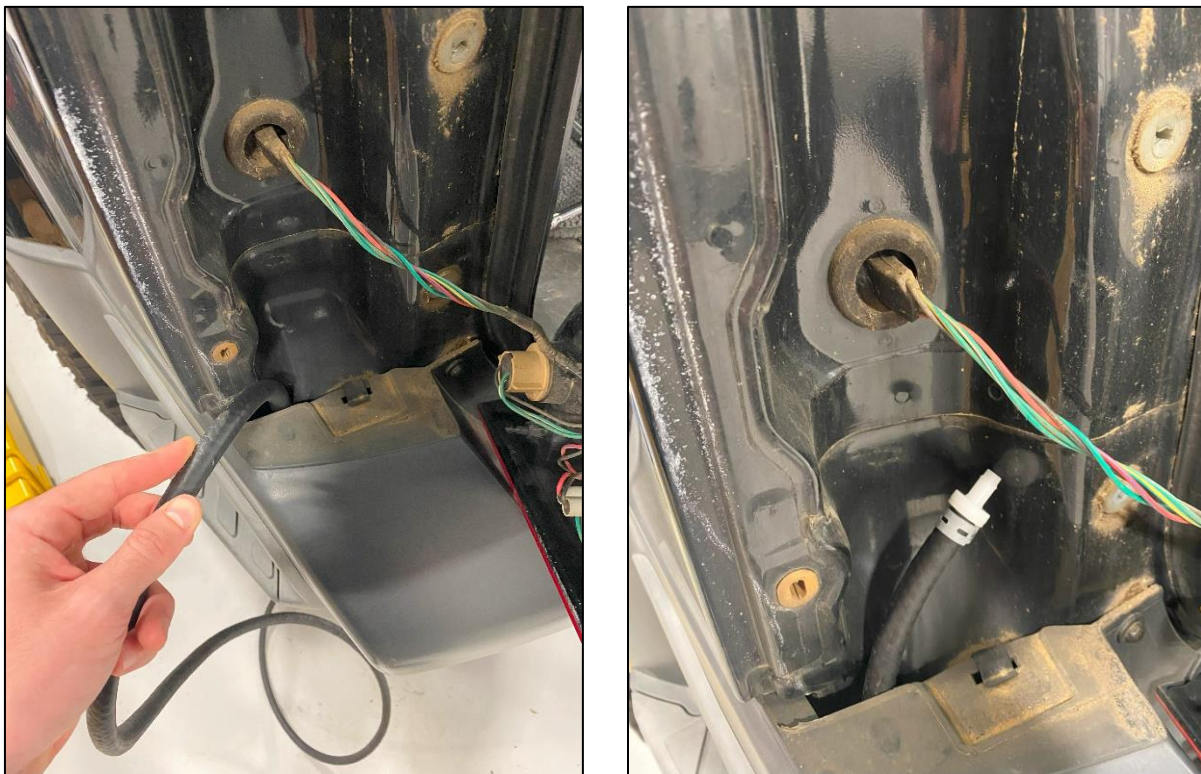

Figure 4
6. Feed the open end of the Hose through the opening at the bottom of the Taillight Mounting Position until the Barbed Filter is almost through. *Figure 4.*